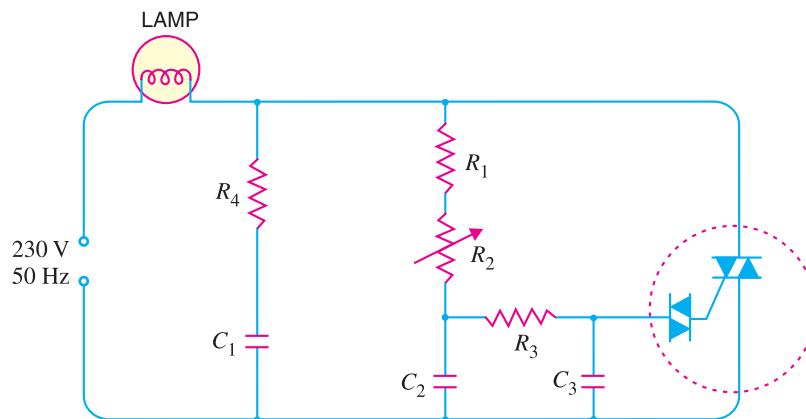
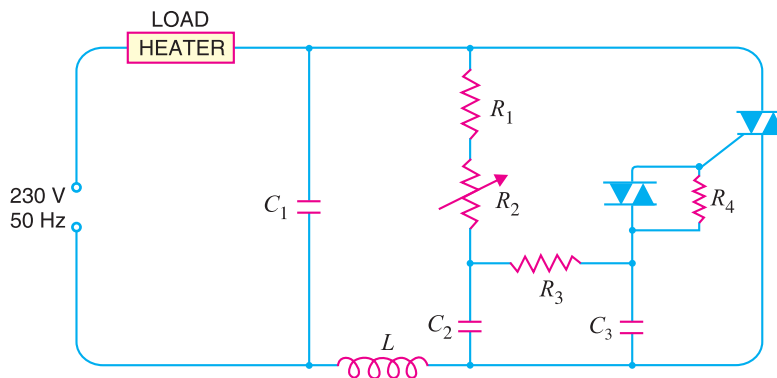

Fig. 21.19
Fig. 21.21
(i) **Lamp dimmer.** Fig. 21.19 shows a typical circuit that may be used for smooth control of a.c. power fed to a lamp. This permits to control the light output from the lamp. The basic control is by an RC variable gate voltage arrangement. The series  $R_4 - C_1$  circuit across the triac is designed to limit the rate of voltage rise across the device during switch off.
**(ii) Heat control.** Fig. 21.21 shows a typical diac-triac circuit that may be used for the smooth control of a.c. power in a heater. This is similar to the circuit shown in Fig. 21.19. The capacitor  $C_1$  in series with choke  $L$  across the triac helps to slow-up the voltage rise across the device during switch-off. The resistor  $R_4$  in parallel with the diac ensures smooth control at all positions of variable resistance  $R_2$ .